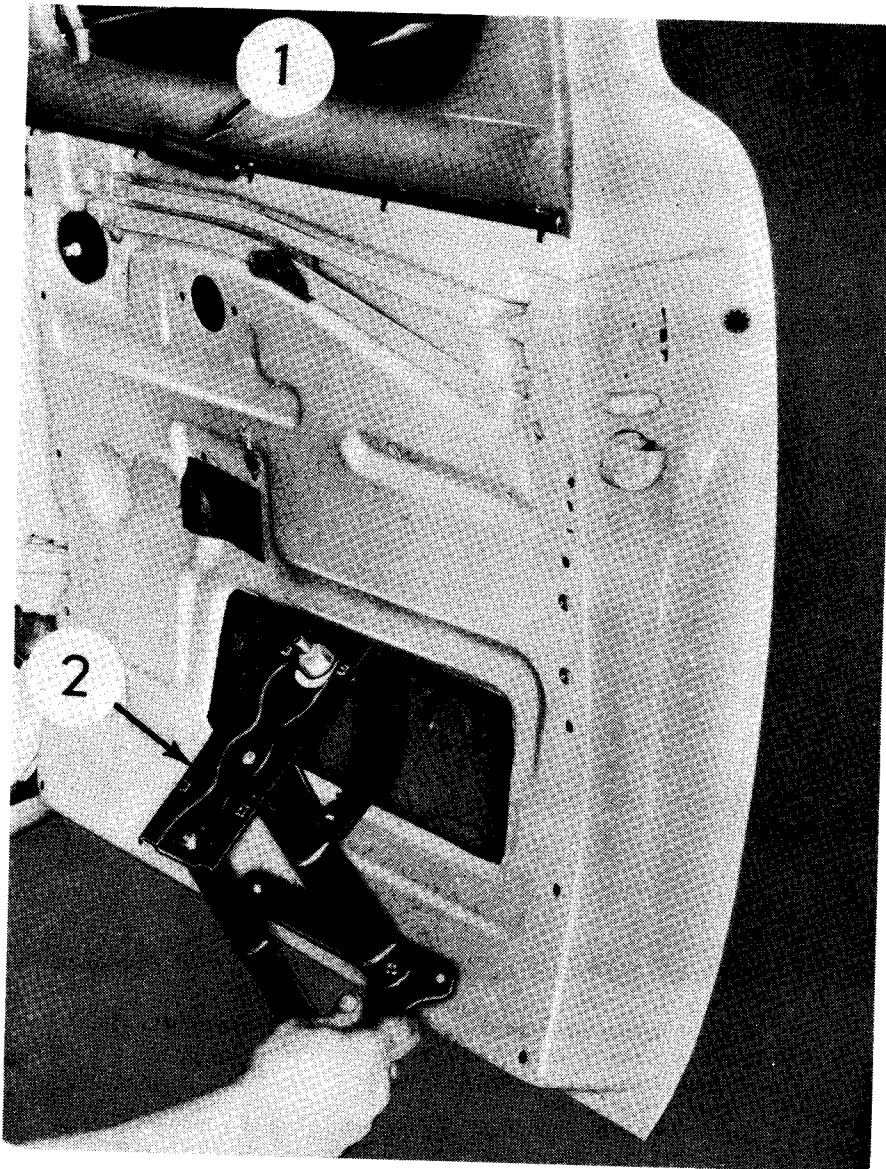

FIG. 3
7. Lift the glass all the way up manually. Hold it in this position by inserting a small screw driver (1, Fig. 3) or punch through one of the upper trim panel clip holes.
9. Thread the regulator (2, Fig. 3) out through the large inspection hole.